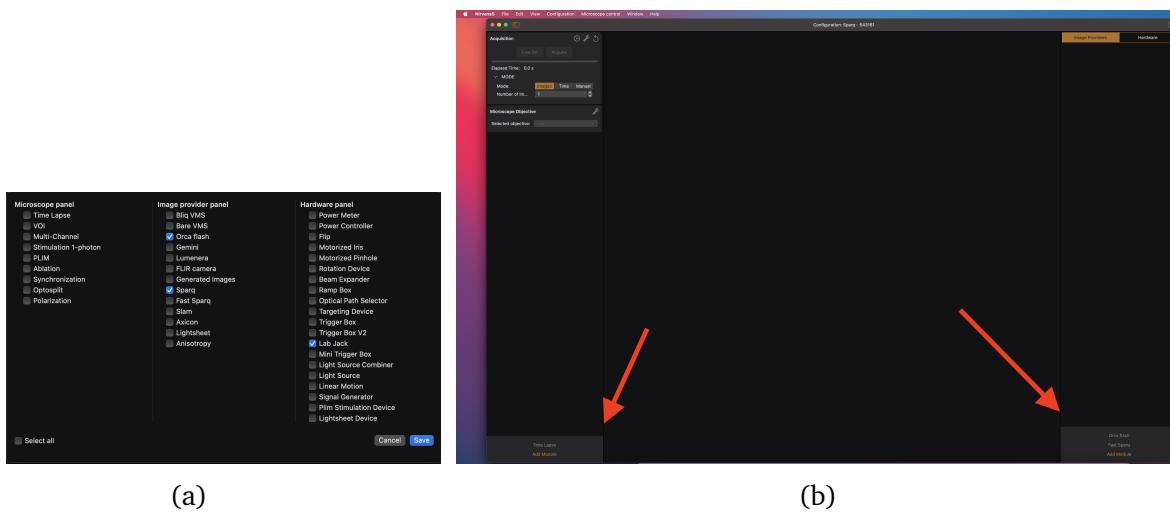

Figure 9
2. Set the module of the software. To do so, click first on *Configuration* on the top-left of the screen, then *Edit available modules* (figure 9). This opens another window (figure 8b). Click Yes.